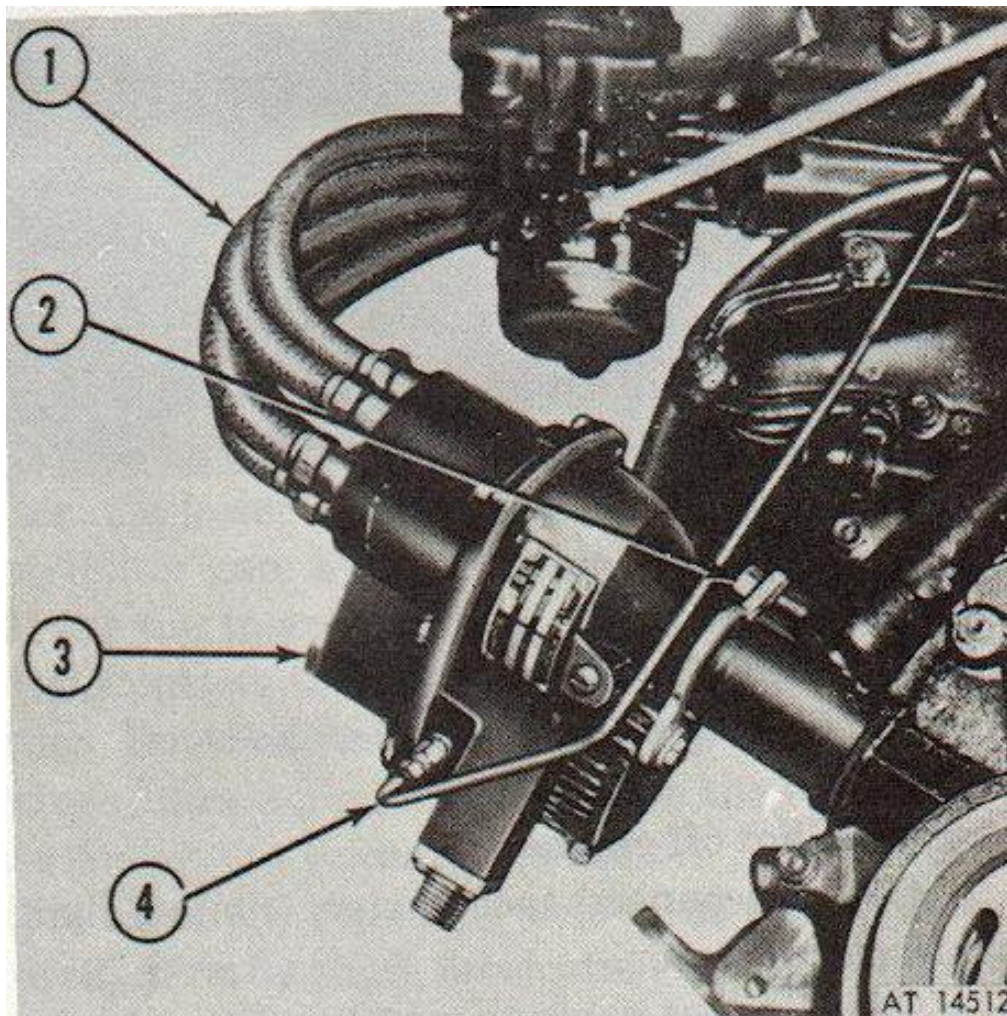

Figure 2-32. Removing ignitor.
- (1) Disconnect battery ground cable from battery negative terminal.
- (2) Disconnect two vacuum ventilation lines (4 fig 2-32).
- (3) Disconnect low tension lead from ignitor housing.
- (4) Remove spark plug leads (1 fig 2-32).
- (5) Remove cap screw and lock washer (2 fig 2-32).
- (6) Remove ignitor from timing chain cover by pulling straight out.